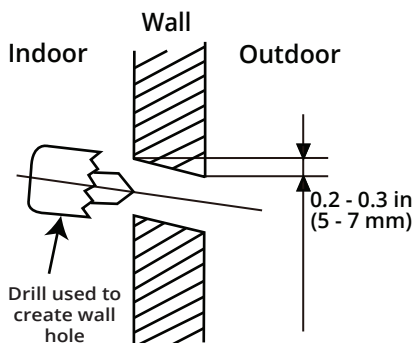

Fig. 4.3
2. Using a core drill, with a 3.54 in (90 mm) diameter, drill a hole in the wall at a slight downward angle, so that the indoor end of the hole is higher than the outdoor end of the hole, by approximately 0.2 in to 0.275 in (5 mm to 7 mm). This will ensure proper water drainage from the indoor unit (See Fig. 4.3).